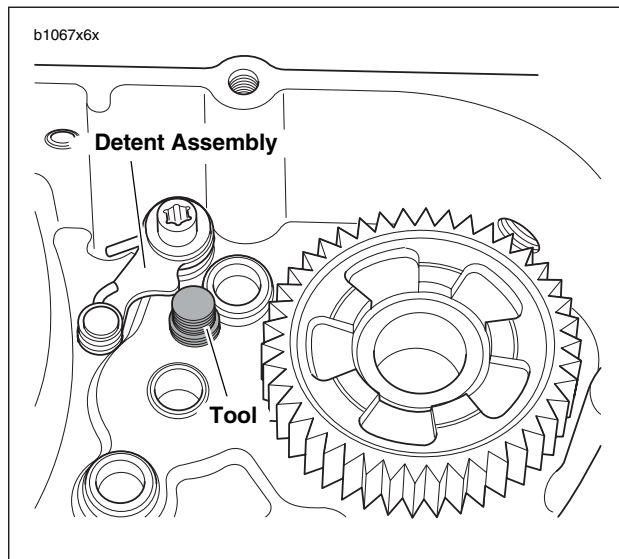

Figure 6-86. Gear Detent Assembly Aid (Part No. B-45520)
2. See Figure 6-86. Retract detent assembly in right case half and install GEAR DETENT ASSEMBLY AID (Part No. B-45520) until it has bottomed in right case half.